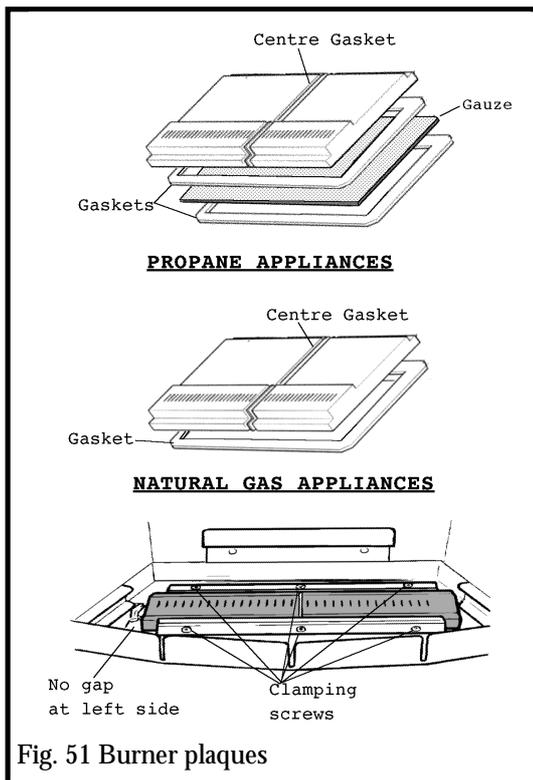

Fig. 51 Burner plaques
13.13 To replace burner plaques (see figure 51)